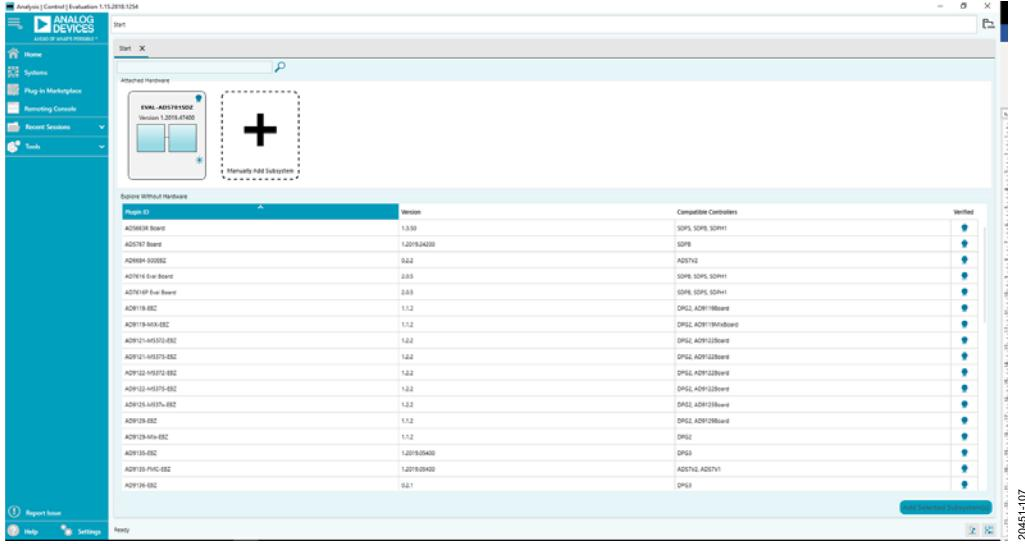
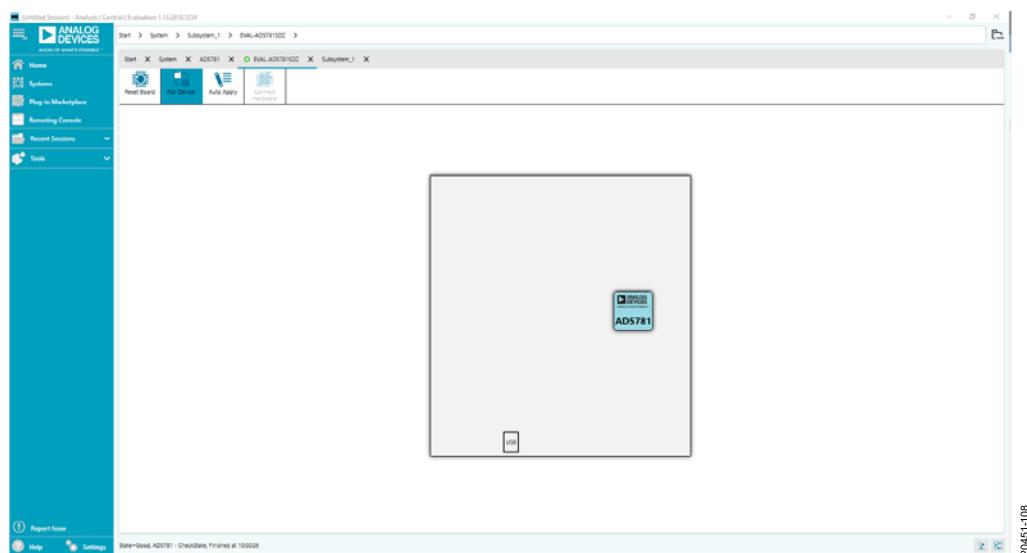
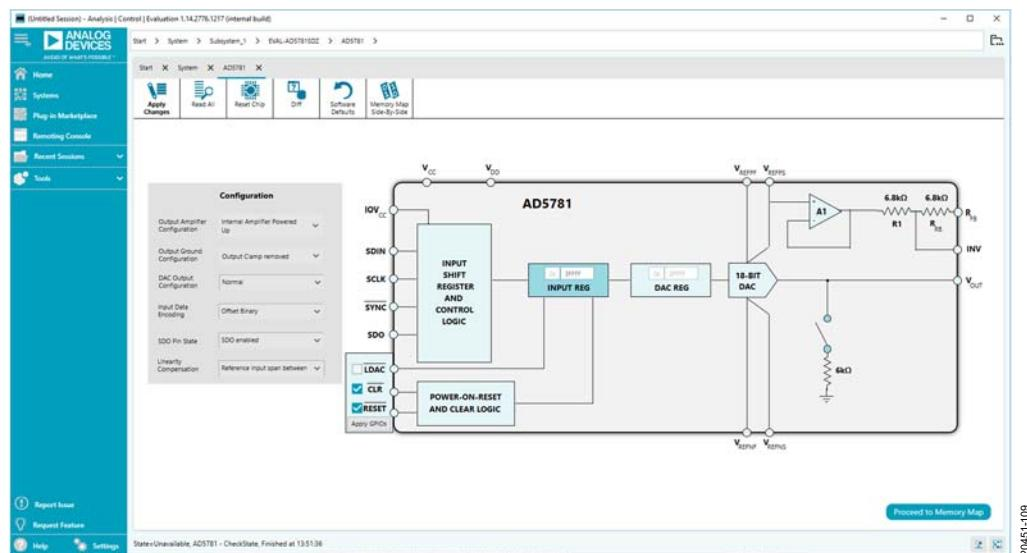

Figure 7. **Start** Tab for the EVAL-AD5781SDZ ACE Software
Figure 8. AD5781 Tab for the EVAL-AD5781SDZ ACE Software
Figure 9. AD5781 Chip Tab for the EVAL-AD5781SDZ ACE Software
1. From the **Start** menu, navigate to **All Programs > Analog Devices > ACE**. The software opens, displaying the **Start** tab, and recognizes the EVAL-AD5781SDZ (see Figure 7).
2. Double-click the EVAL-AD5781SDZ icon in the **Attached Hardware** pane to open the AD5781 chip tab (see Figure 7, Figure 8, and Figure 9).
3. Double-click the EVAL-AD5781SDZ icon under **Attached Hardware**, as shown in Figure 7, to open the AD5781 tab (see Figure 9). This tab displays the block diagram and allows the configuration of the DAC input registers and control registers. The hardware registers and the fields in the **Configuration** pane shown in Figure 9 are not altered until the user clicks **Apply Changes**. The GPIO values are not altered until the user clicks **Apply GPIOs**.